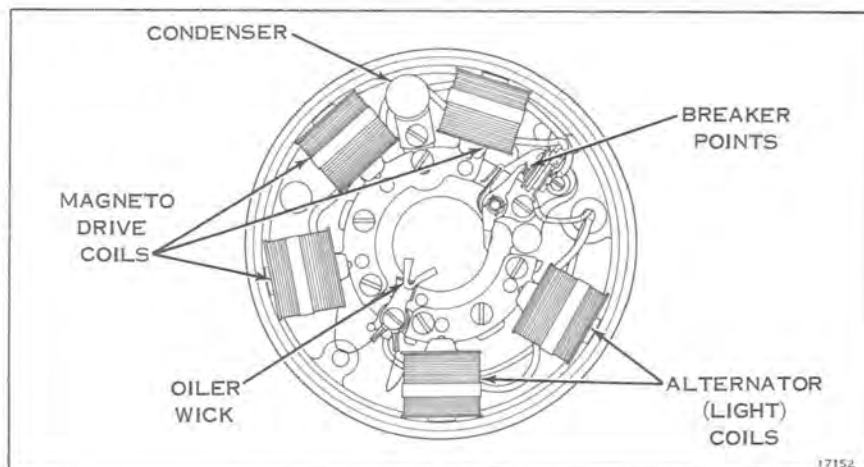

Figure 7-10
- Remove flywheel from crankshaft (see Figure 7-9), using flywheel puller (Service Tool #378103). Magneto drive coils, condenser, and breaker point assembly are now accessible for servicing (see Figure 7-10).
- e. Install new oiler clip and wick in position on mounting boss (see Figure 7-10). Apply Delco #U-1901 1948792 distributor lubricant to oiler wick and to point cam follower on side toward cam rotation.